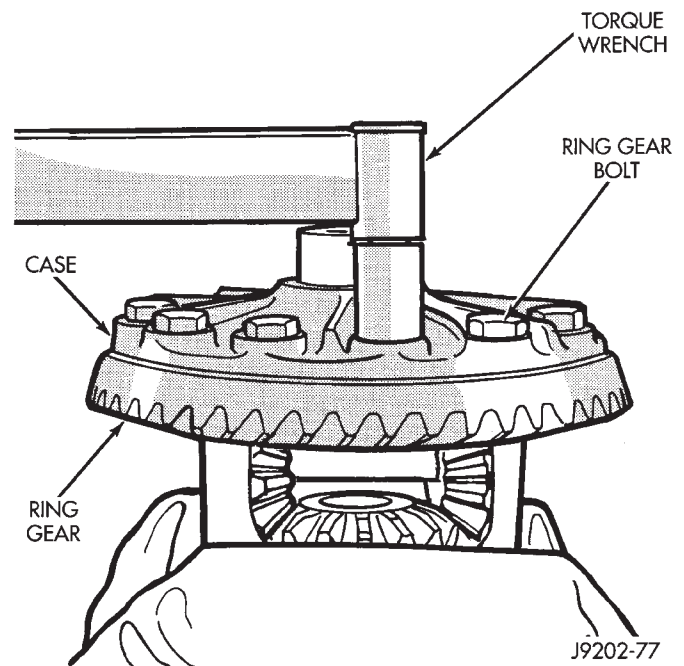

Fig. 16 Ring Gear Bolt Installation
(15) Invert the differential case and start two ring gear bolts. This will provide case-to-ring gear bolt hole alignment.
(16) Install new ring gear bolts and alternately tighten to 61-81 N•m (45-60 ft. lbs.) torque (Fig. 16).
(17) Lubricate all differential components with hypoid gear lubricant.